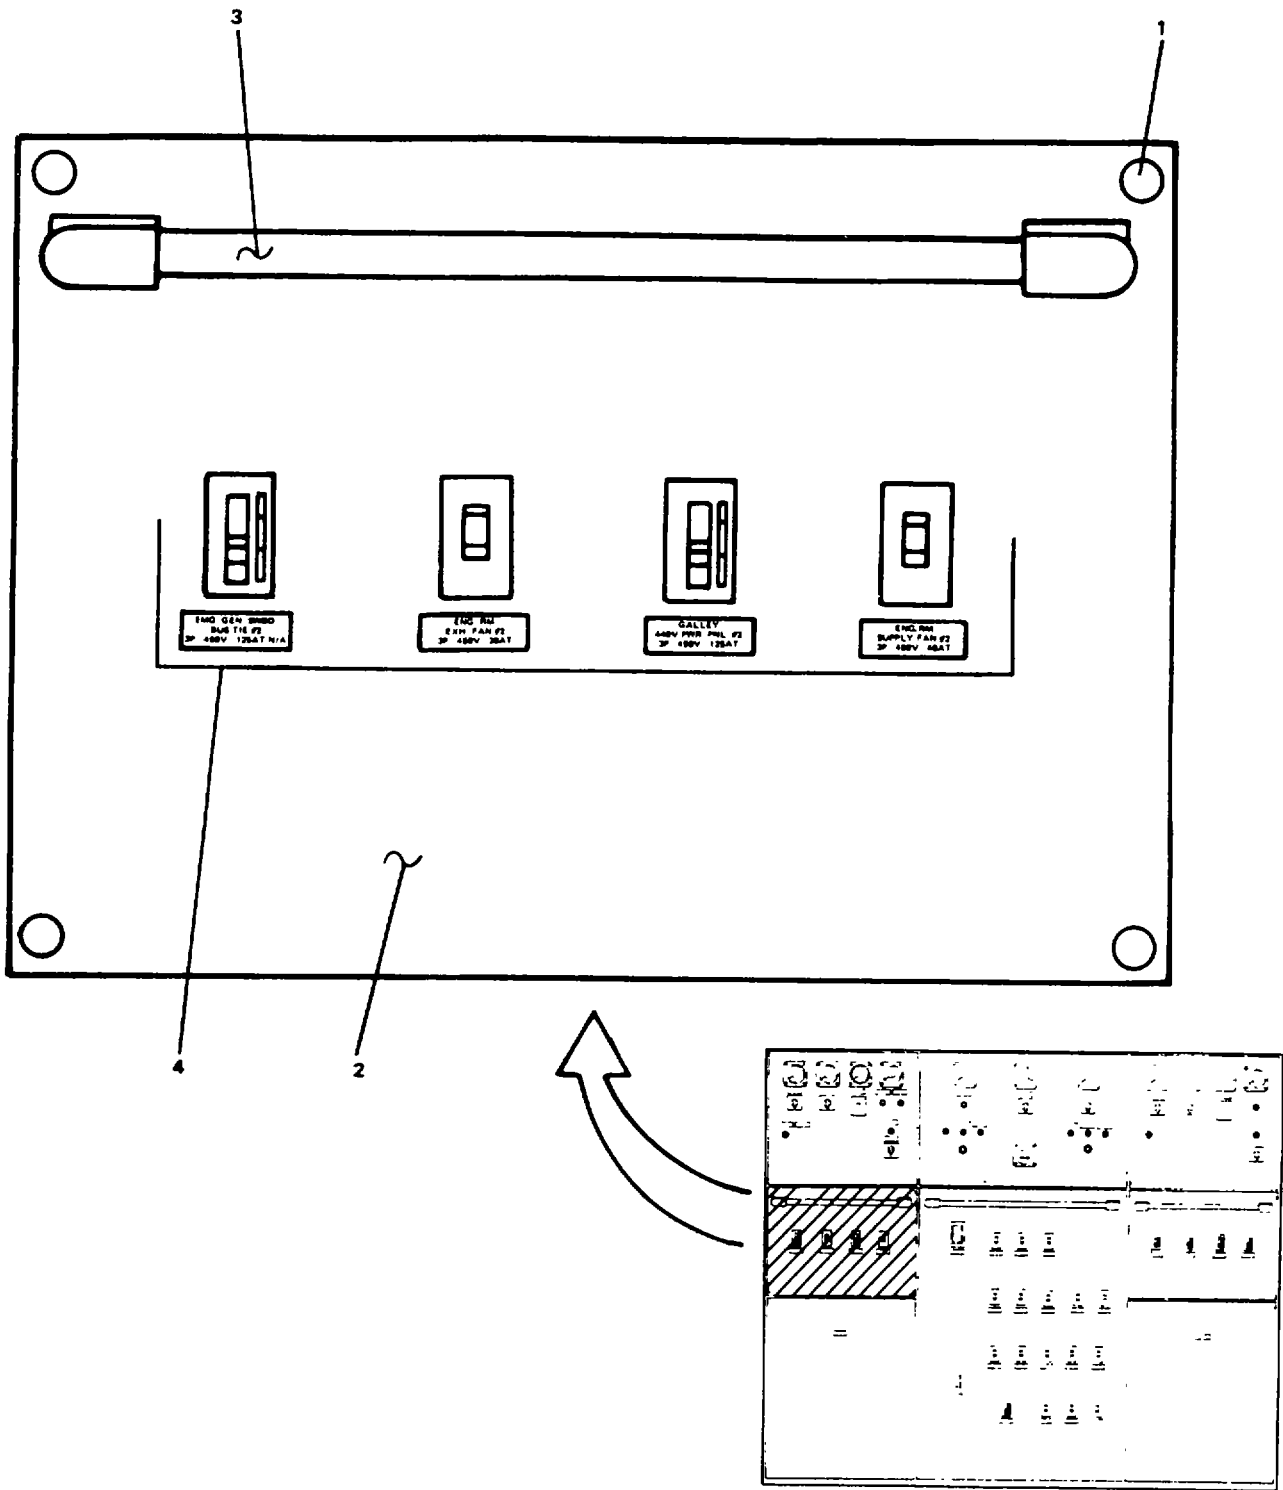
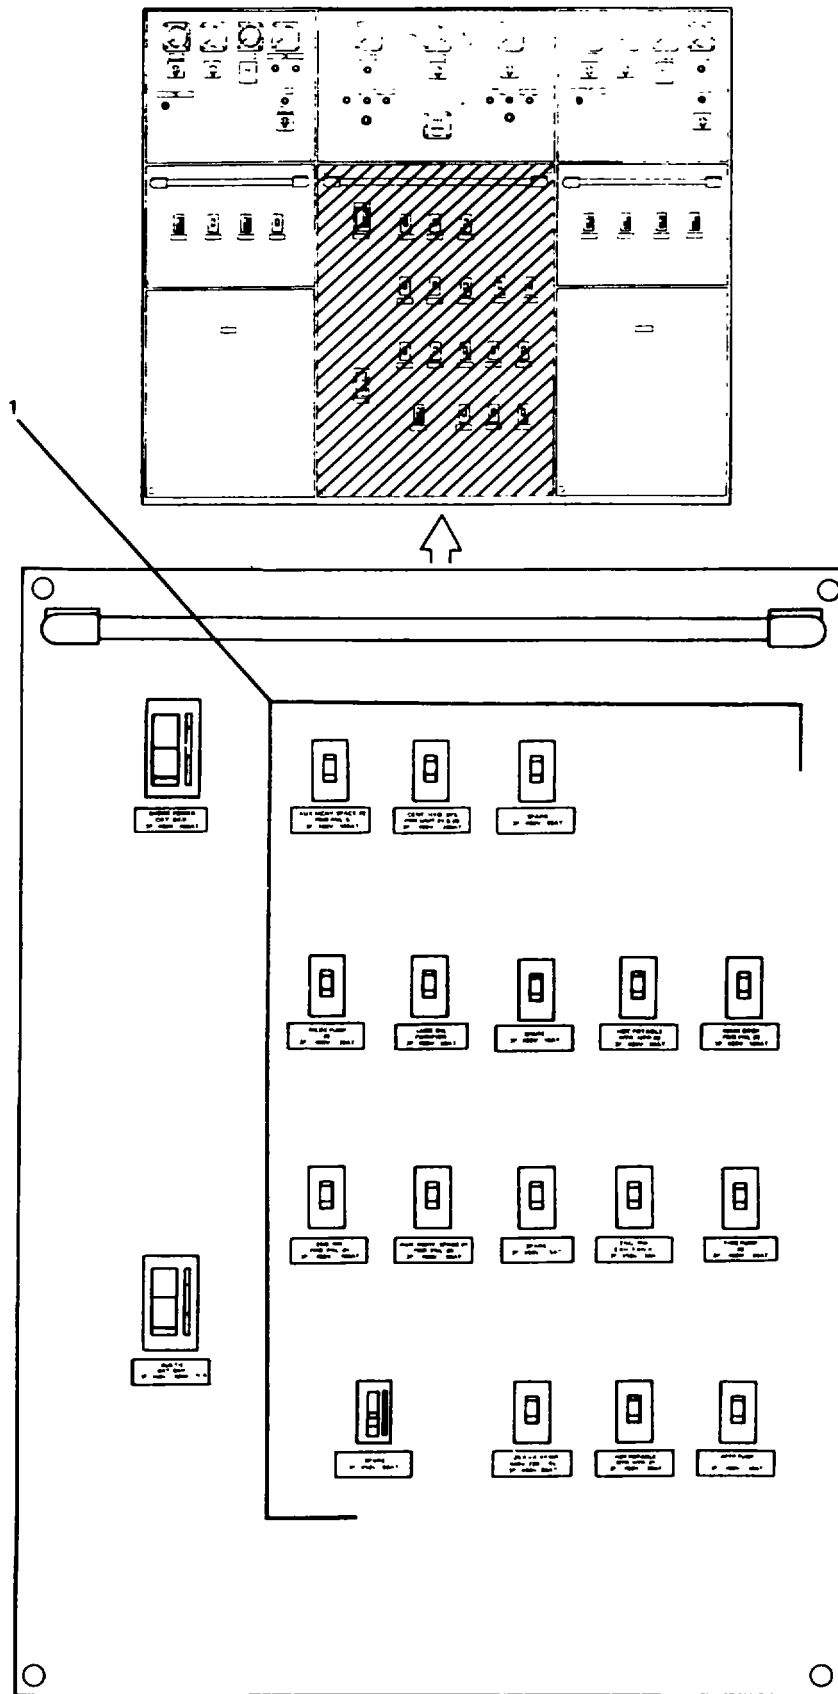

Figure 2-45. Main Switchboard Middle Left Panel.
Figure 2-48. Main Switchboard Bottom Center Panel.
a.Turn four door panel screws (1, Figure 2-45) counterclockwise to loosen.
b.Remove door panel (2) using handrail (3). Store door panel (2) in a safe out-of-way place.
Procedures for REPLACEMENT of circuit breakers are basically the same as those described in paragraph 2-39 and illustrated in Figure 2-45. For configuration variance of circuit breakers (1) refer to Figure 2-48.
Procedures for REMOVAL of circuit breakers are basically the same as those described in paragraph 2-39 and illustrated in Figure 2-45. For configuration variance of circuit breakers (1) refer to Figure 2-48.